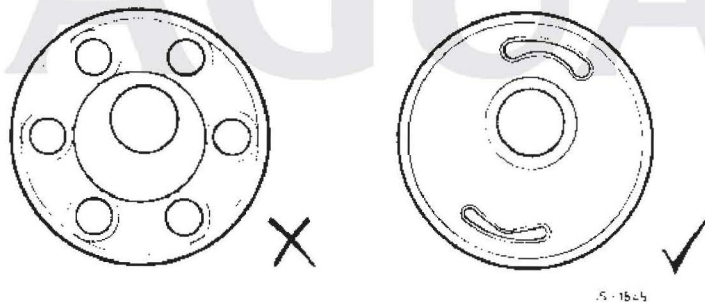

FIG 1
**Note:** The bushes originally used were termed as 'six-shooter' bushes. These have now been redesigned / replaced by the 'smiley-faced' bushes currently being used, see Fig. 1 for identification.